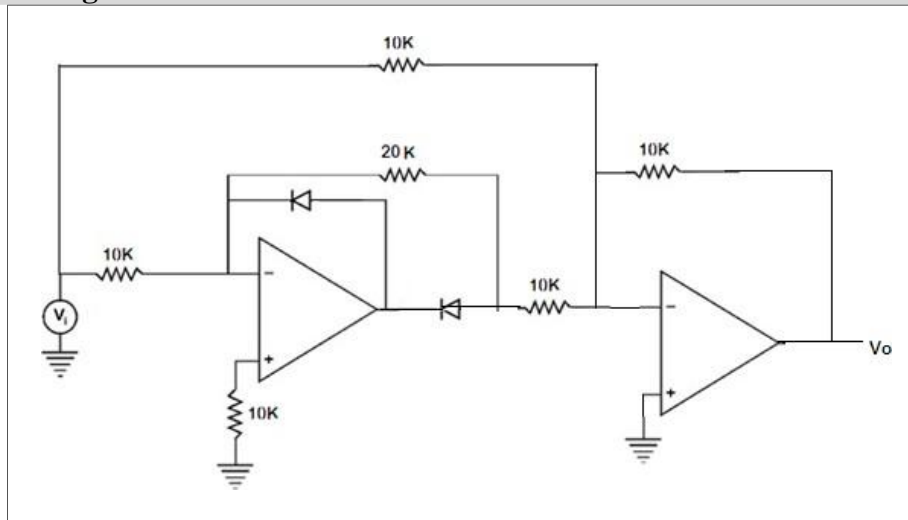

Fig 1. Precision full wave rectifier circuit
1. Connections are made as per the circuit diagram shown in fig 1.